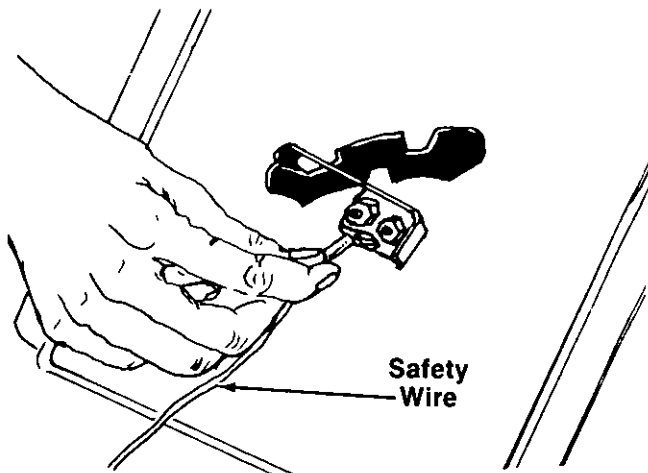

FIGURE 5.
3. Lift the transmission cover. Unplug the safety wire from beneath the transmission cover. See figure 5. Remove transmission cover.
13. Plug the safety wire into the switch beneath the transmission cover. Refer to figure 5. Replace the transmission cover and gear shift knob.